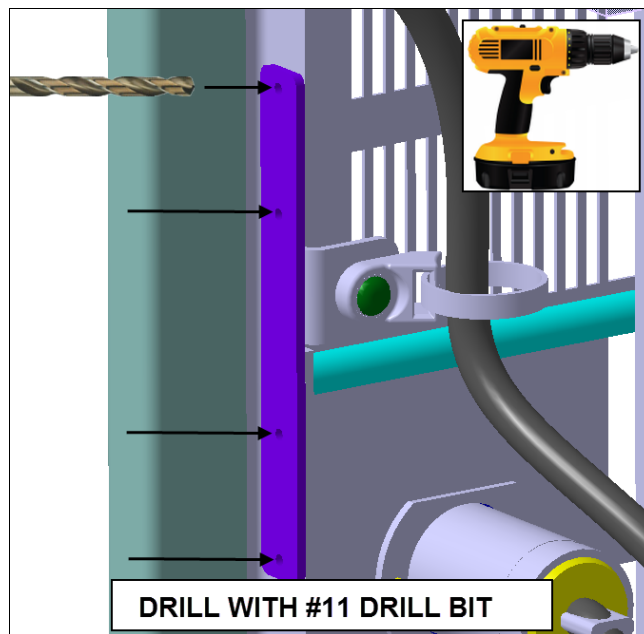

FIG.26 DRILLING PLATE & DOOR FRAME
- 6) Use the 4 plate *pilot holes* as a guide and drill through the door frame and the plate holes with a #11 (0.191") drill bit and an electric hand drill (Fig.26).